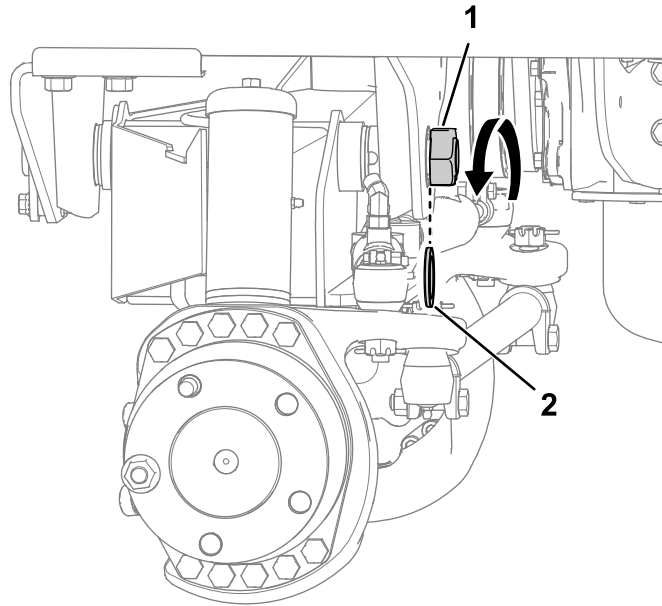

Figure 6
1. Remove the locknut and the thrust washer that secures the pivot shaft to the frame as shown in Figure 6.